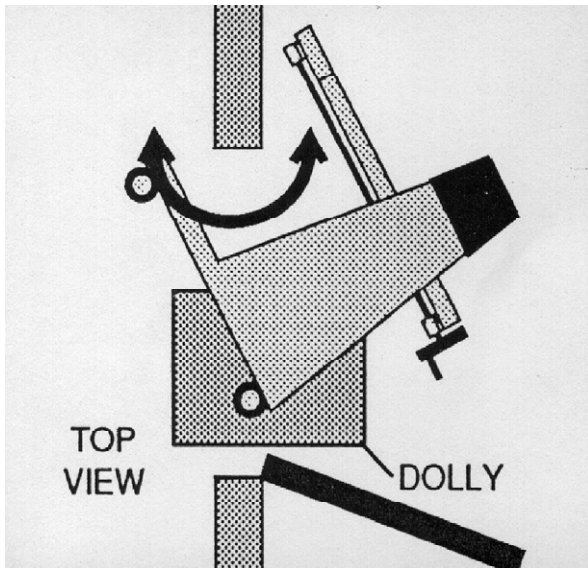

fig 3
3. Pivot the cutter through the doorway. (fig. 3) NOTE: Care should be taken so none of the components under the table are damaged.